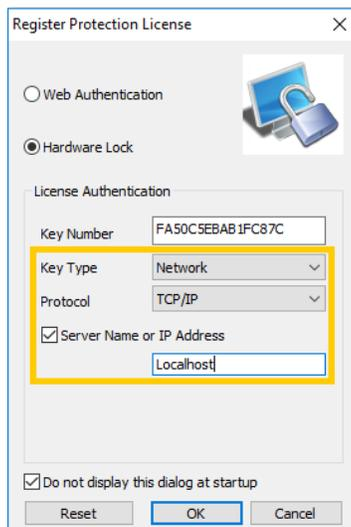

Figure 85 Network setup 1
2. Please set up computers containing a dongle like as shown Figure 85.